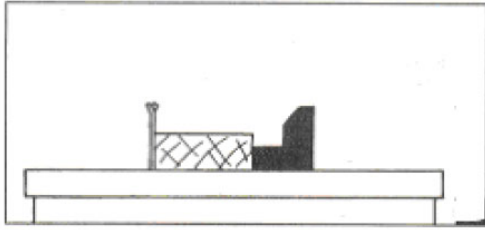
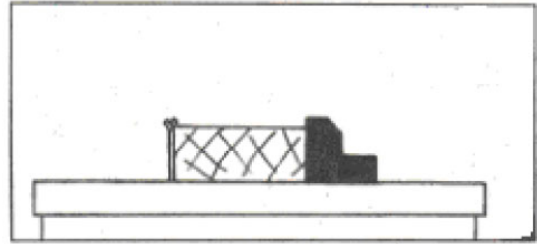

Fig.11
Fig.12
- 5) To adjust for flat workpieces, loosen the lower M8 clamp screw in the limit stop holder (Fig. 11, Fig. 12), allowing the longitudinal limit stop to be moved or turned.